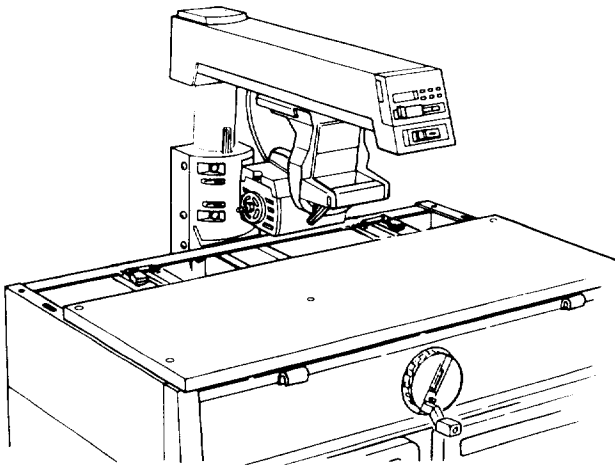

Fig. 81
24. Unlock the *bevel lock* and return the *motor* to its original position with the *arbor shaft* parallel to the *table*. (Figure 81)